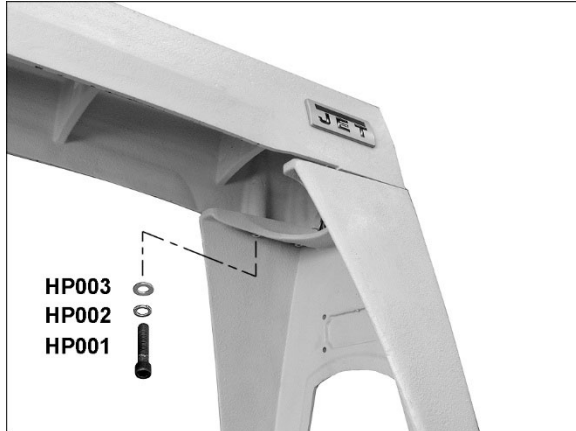

Figure 5-3: installing legs
2. Position lathe onto legs and secure with screws and washers (HP001/2/3, Figure 5-3) using 6mm hex key.
4. Install legs with screws and washers (HP001/2/3, Figure 5-3) using 6mm hex key. Tighten screws firmly.